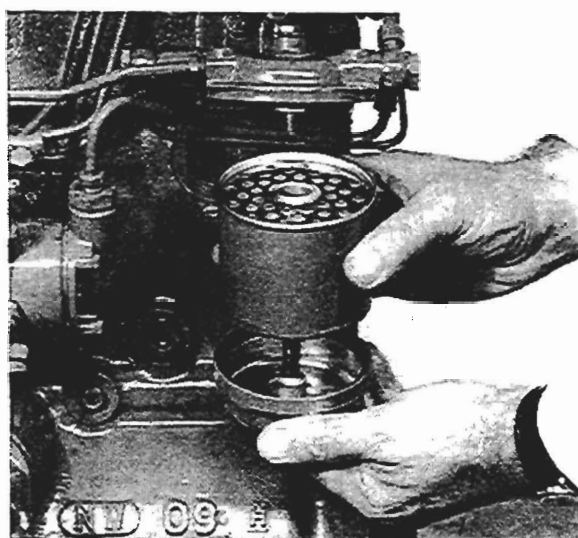

Fig. P2
2. Lower filter bottom cover (see fig. P2).